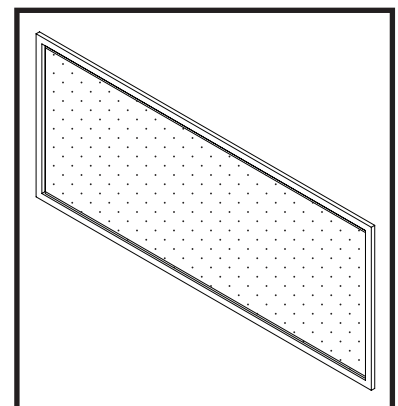

Figure 67: TCWS54 Safety barrier screen.
6. Attach the magnetic safety barrier screen (Figure 67) to the outer-most door frame.
The air shutter on the burner tube controls the primary combustion air. It is set to the closed position at the factory for natural gas fuel. For LP . Some adjustment may be necessary to obtain desired flame and to eliminate carbon deposits. Evaluate flame appearance after the fireplace has reached operating temperature. See Figure 67 for proper flame pattern.